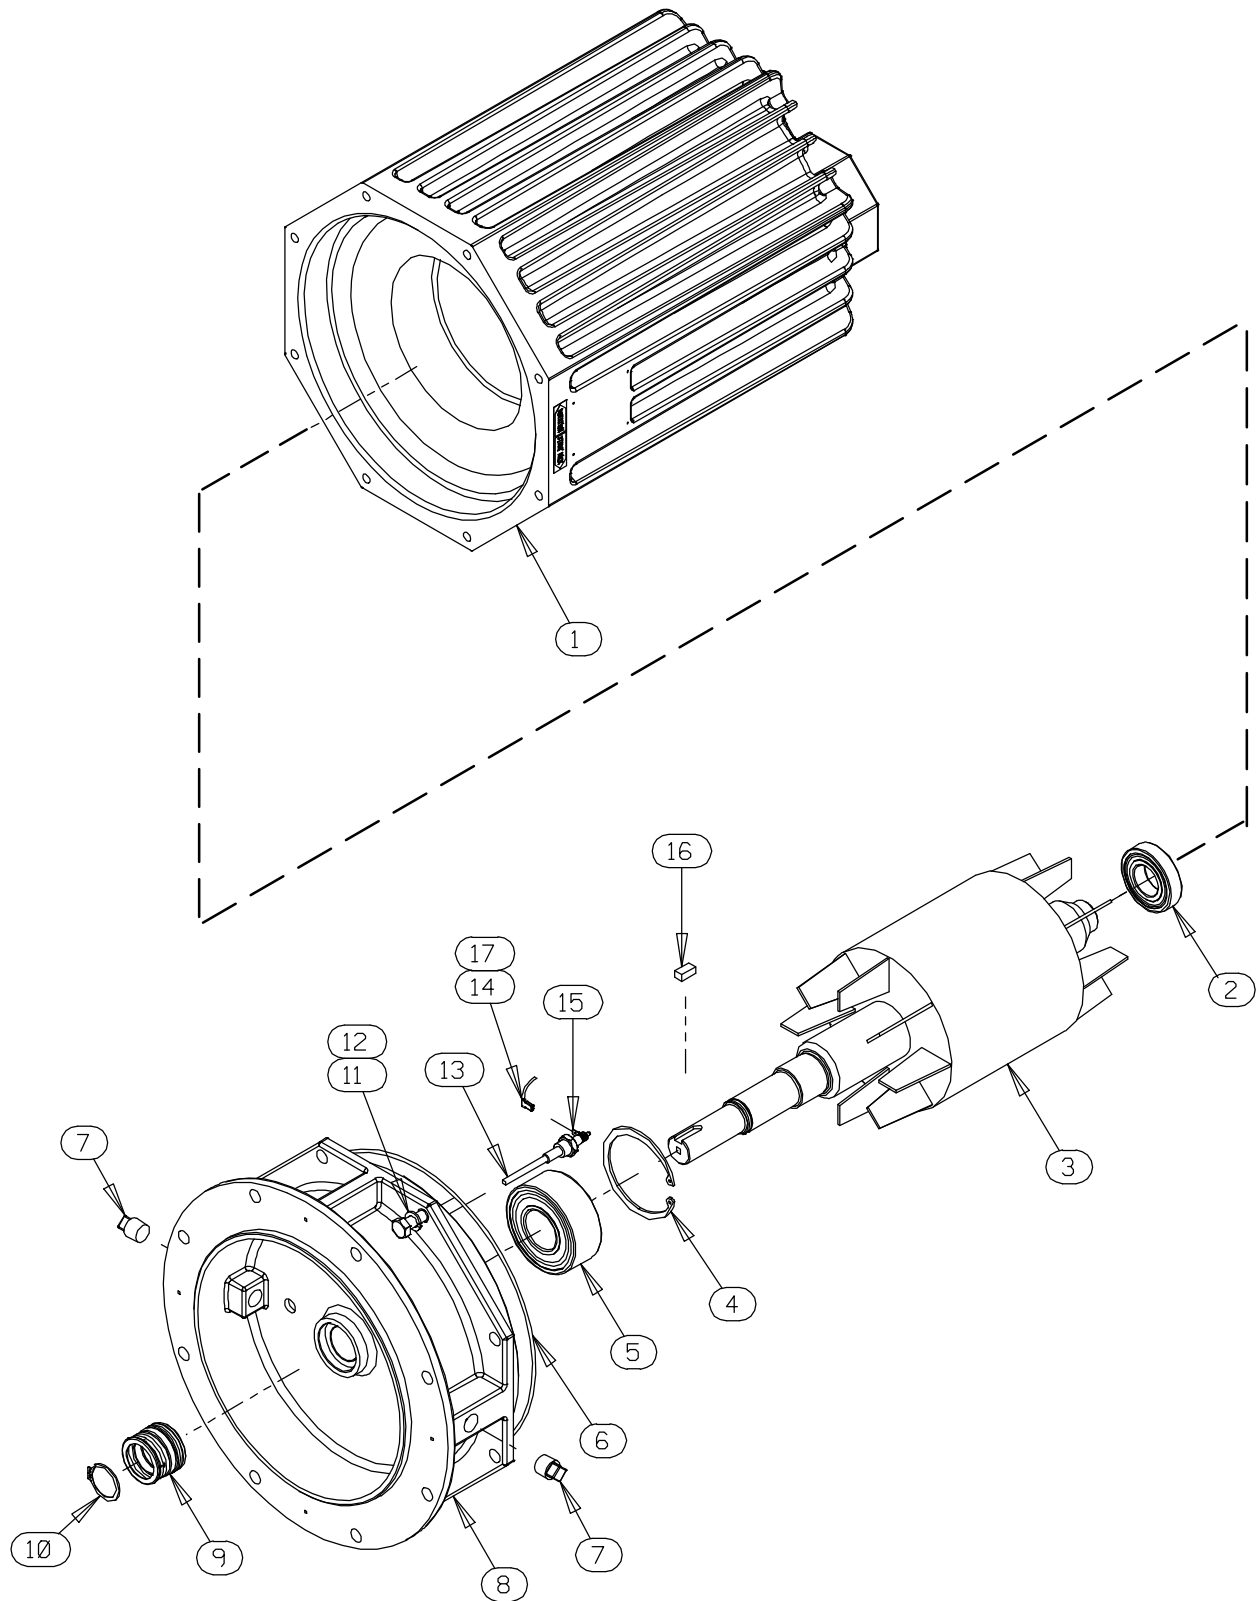

Figure E-2. 47111-973, -978 and -985 Motor Assemblies
(Figure E-2)
To remove the impeller, use two thin-bladed screwdrivers positioned 180° apart to pry on the back of the impeller and “walk” the impeller off the shaft. Use increasingly larger screwdrivers (or wedges) as necessary. After the impeller comes free of the shaft, retain the impeller key (16, Figure E-2).
An alternate method of removing the stationary element is to remove the screws (18) securing the seal plate (16) to the motor assembly (6). Pry the assembled seal plate and stationary element off the shoulder of the intermediate (8, Figure E-2). Remove the O-ring (5) and press the stationary element and seat out of the seal plate from the back side.
(Figures E-2 and E-3)